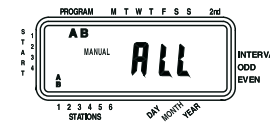

Figure 10: Semi-Automatic Watering for Stations Assigned to A and B Programs
- Turn the rotary dial to auto, then press the manual key. The display will show "AB", "MANUAL", and "ALL" will be blinking [See Figure 10]. This indicates all six (or twelve) stations in the A and B programs will semi-automatically water for their assigned durations in sequence.